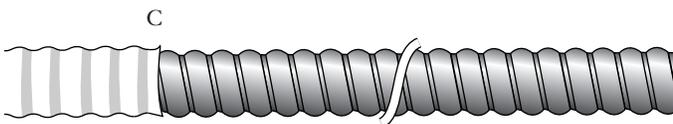

Figure 18
5.7 Using the hook blade knife, make a ring cut through the outer jacket at the C mark. Remove the outer jacket from this ring cut to the end of the cable to expose the interlocking armor (Figure 18).